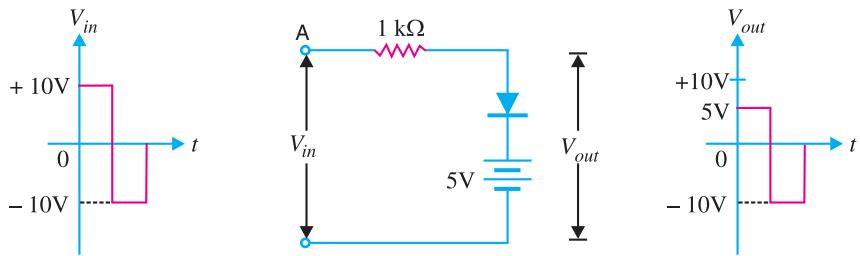

Fig. 18.40
**Example 18.14.** For the input waveform to the clipping circuit in Fig. 18.40, find the output voltage waveform.
output voltage stays at 5V. For all negative voltages at A and positive voltages less than 5V, the diode is reverse biased. When reverse biased, the diode acts like an open circuit and  $V_{out} = V_{in}$ . Thus circuit in Fig. 18.40 is an adjustable positive peak clipper that clips all positive peaks greater than battery voltage (*i.e.* 5V).